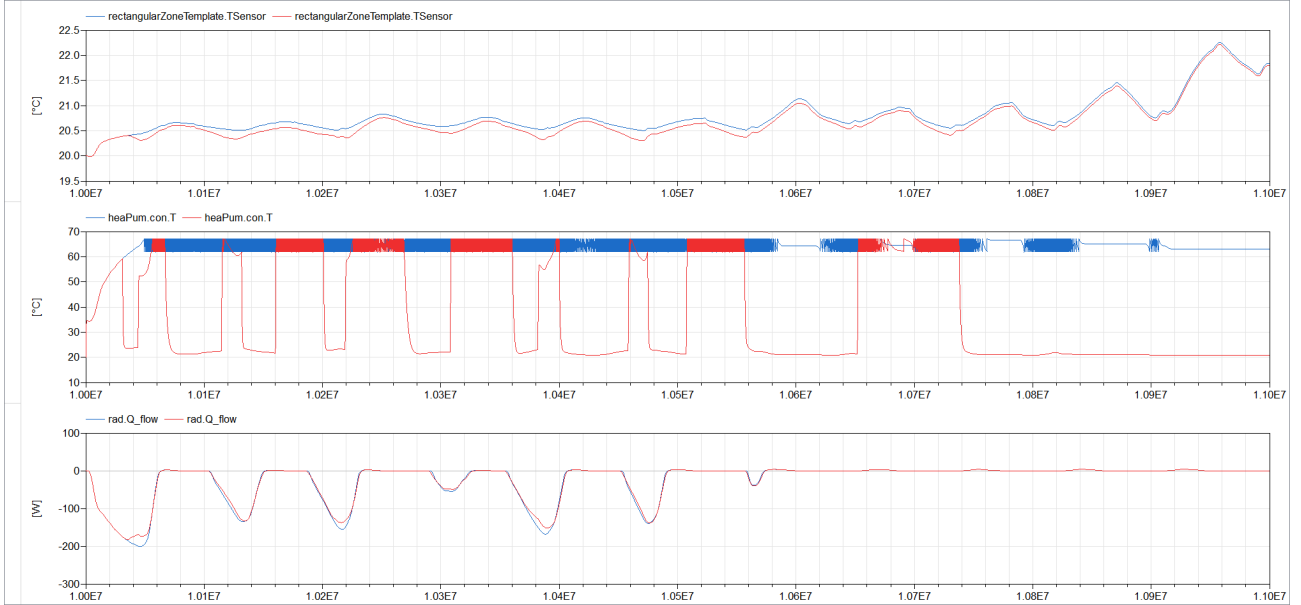

Figure 4: Comparison with (red) and without (blue) control for zone temperature, supply water temperature and radiator thermal power.
**Reference result** Figure 4 compares the results with the results without controller. We see that indeed, the supply temperature is reduced significantly. This causes the zone temperature to be slightly lower, up to about  $0.25^{\circ}\text{C}$ . The COP however increases from about 2.9 to about 3.1. Consequently, the energy use over the period is reduced from  $11.56\text{ kWh}$  to  $9.64\text{ kWh}$ . Note that this heating system configuration is still not efficient since the small flow rates still cause large temperatures to occur within the heat pump and thus cause a small COP. COP's of more than 5 are obtainable when using a bypass and a separate pump to charge the storage tank.